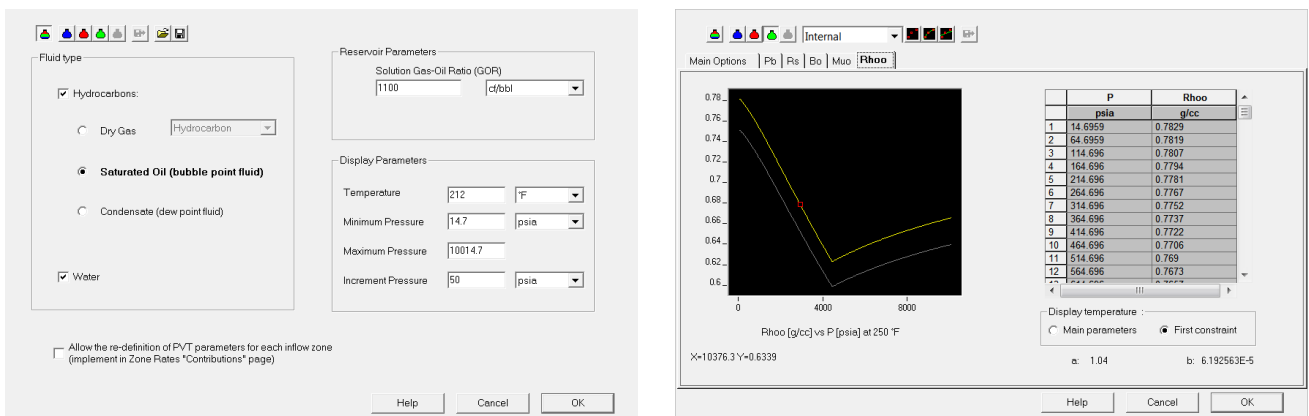

Fig. B01.34 • PVT
- Click on the 'PVT' icon: the main PVT dialog pops up (Fig. B01.34 left).
Clicking on the adequate phase icon ( , ,  ), the used correlations can be viewed and matched to fit defined 'Constraints' (Fig. B01.34 right).